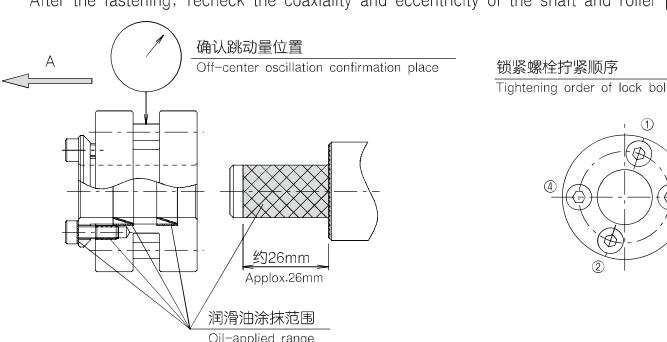

图2 /Fig. 2
2. 在轴的滚轮接触部分以及涨紧套的外径·锥面·锁紧螺栓的螺纹部·头部座面轻轻涂抹润滑油或者润滑脂（图2）。
Lightly apply oil or grease to the contact portion of the shaft with the roller pinion, the outside diameter and taper portion of the clamping tools, and the thread portion and head seat of the lock bolt(Fig. 2) .